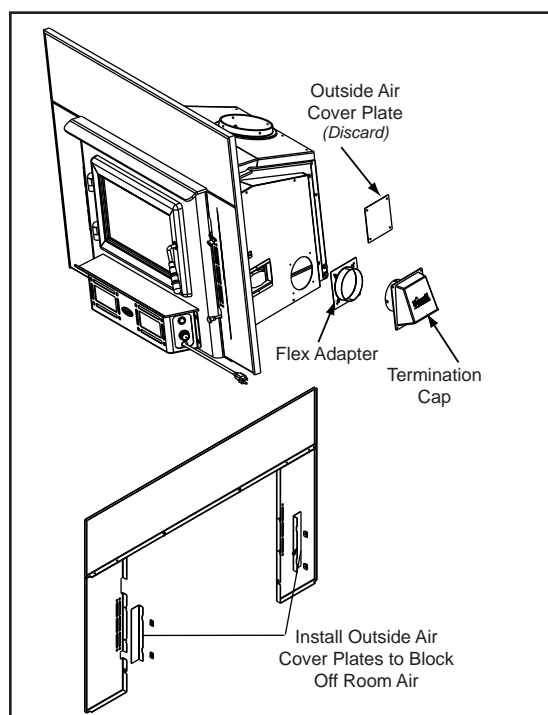

Figure 39.1
6. Snap the cover plates on the 2 side panels to block off room air. **Figure 39.1**.